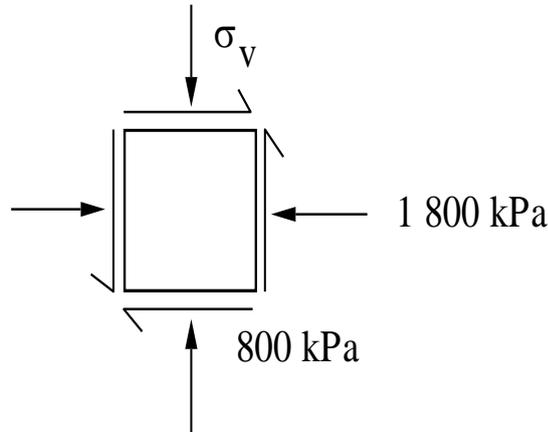

Figure 2
- d. A triaxial test with an applied torque is conducted which creates a shear of 800 kPa on an element on the surface of the similar sample, as shown in Figure 2. If the confining pressure is 1 800 kPa, determine the total axial stress which has to be applied,  $\sigma_v$ , to fail the sample.